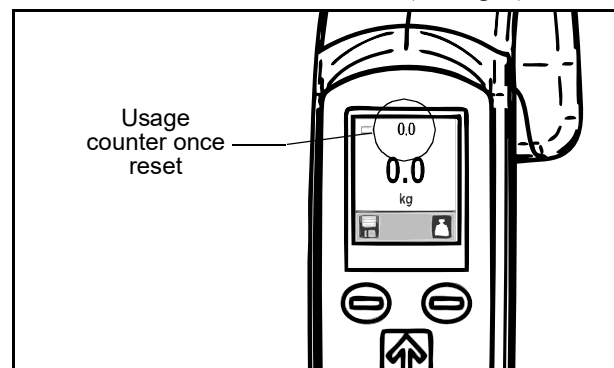

Fig. 4
5. Turn the unit off again using the stop button. When the unit is next powered up, the digits for the usage counter will show a zero value (see Fig. 4).